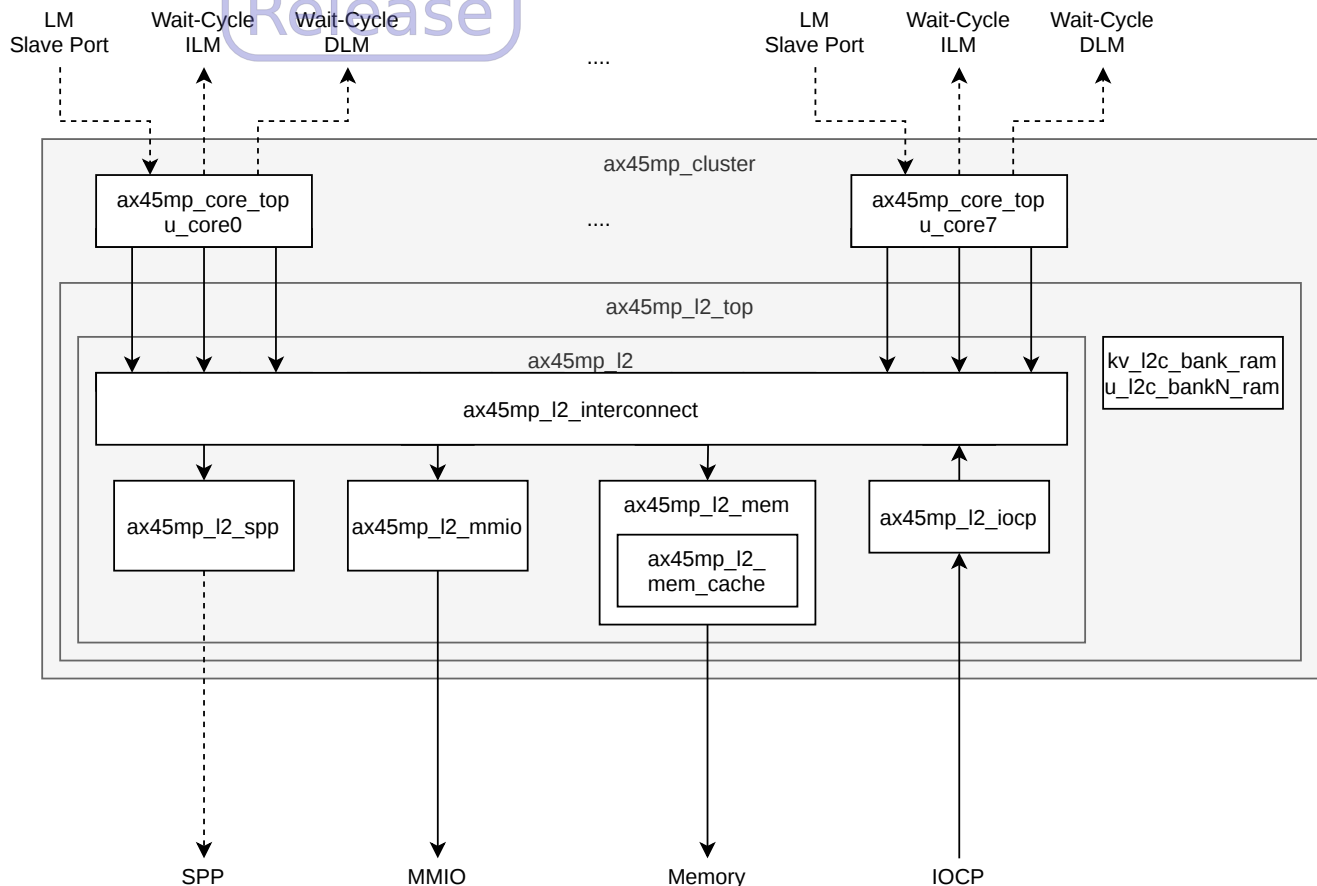

Figure 2: AX45MP Cluster Design Hierarchy
The top of the AX45MP processor design is ax45mp_cluster. The ax45mp_cluster (Figure 2) instantiates the configured number of ax45mp_core_top and the ax45mp_l2_top. The ax45mp_l2_top integrates level-2 (L2) modules, including L2 interconnect, coherence manager (CM), L2-Cache controller, L2-Cache RAMs, Memory, MMIO and IOCP interfaces.